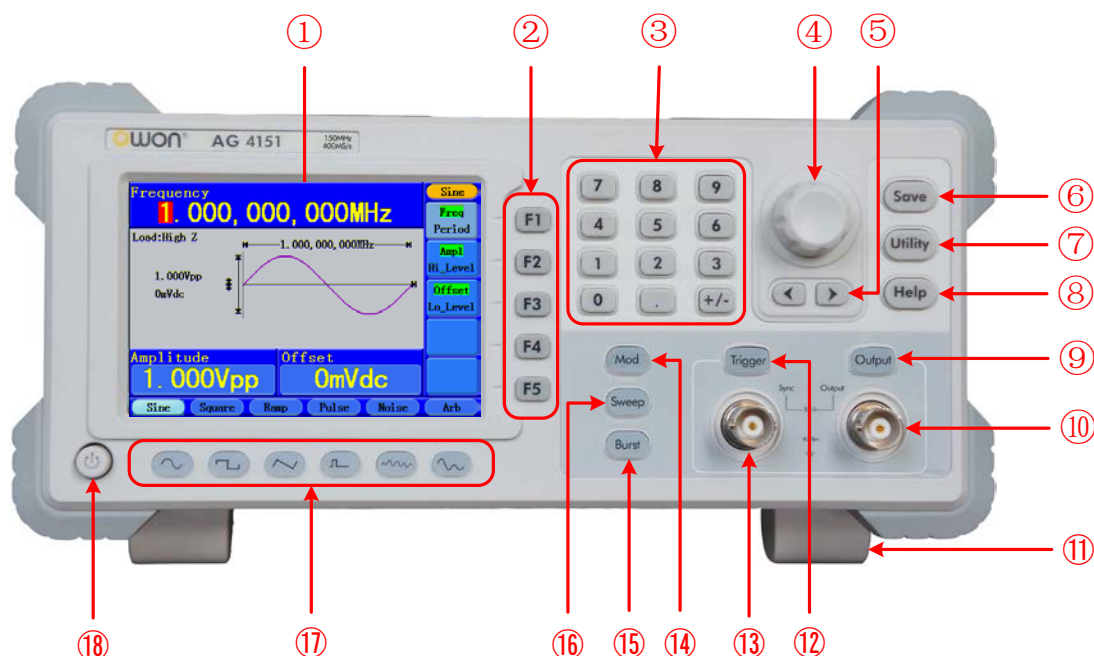

Figure 4-1 Front panel overview
Unfold the foot stools on the bottom of the generator, as ⑦ in *Figure 4-1*.